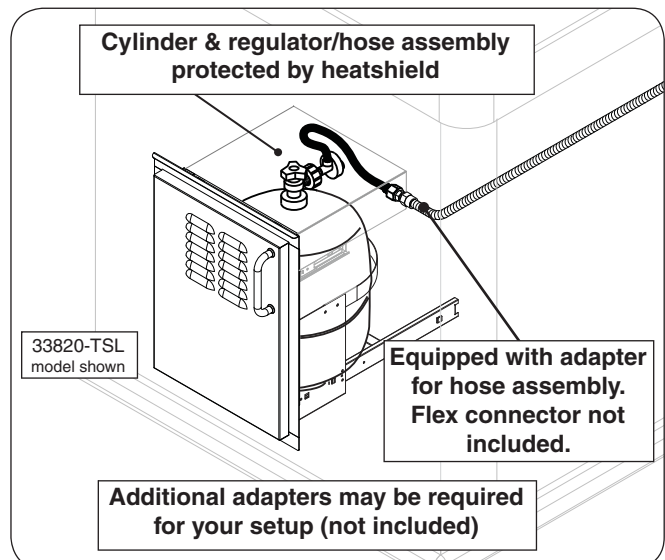

Fig. 11-3 Optional RHP door w/ tank tray
- **RHP offers propane tank door with tank tray models and a propane tank heatshield that rests directly on the tank to meet the cylinder install requirements. Propane tank door with tank tray shown in Fig. 11-3. Contact your dealer for ordering information.**